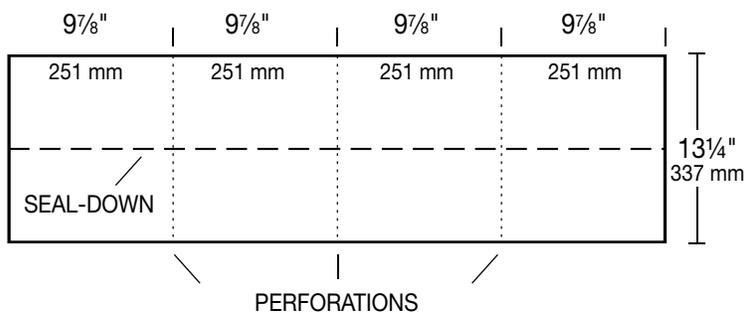
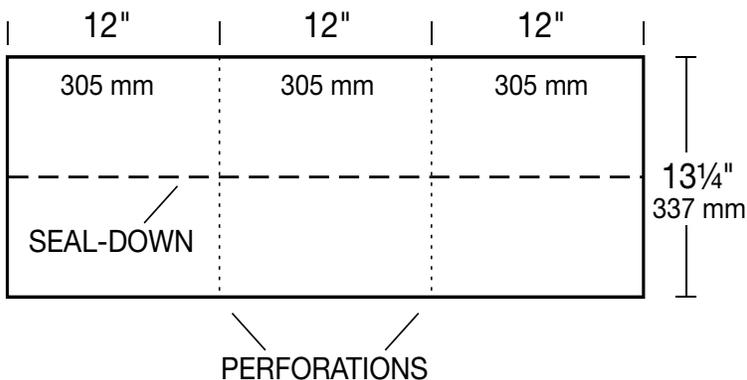

Figure 17 - 10" RidgeFlex® Hip and Ridge Shingle
Figure 18 - 12" RidgeFlex® Hip and Ridge Shingle
Prepare for application by separating each hip and ridge shingle at the perforations: The 10" RidgeFlex® produces four (4) individual hip and ridge strips (see Figure 17), and the 12" RidgeFlex® produces three (3) (see Figure 18). Note the seal-down strips.